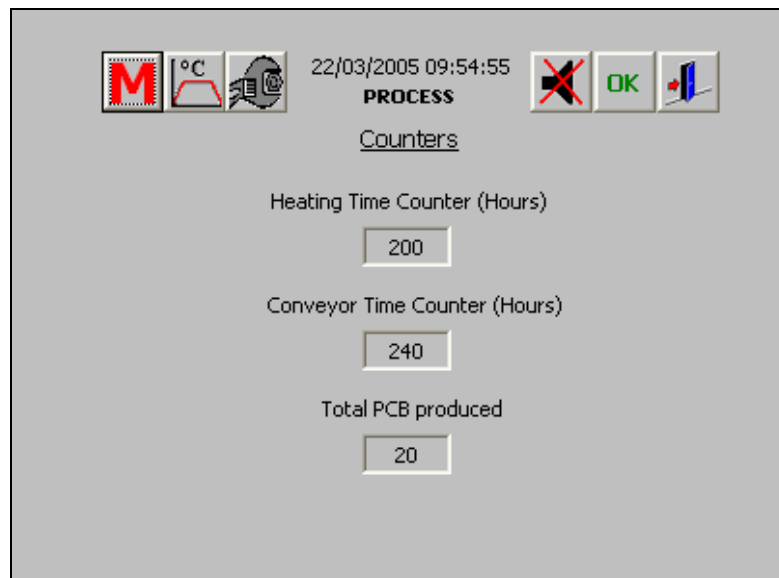

Figure 6-45 Oven Production Counters Screen
2. The following screen appears displaying the counter values (Figure 6-45).